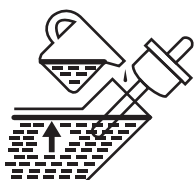

FIGURE 23: Engine Oil Level
5. Insert oil fill cap into oil fill hole but do not screw in (Figure 23).